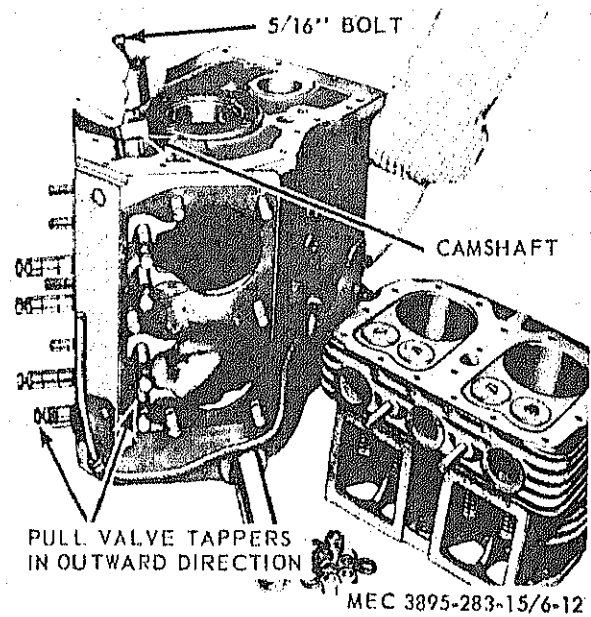

Figure 6-12. Camshaft Removal.
(1) The camshaft must be withdrawn from the flywheel end.
(2) Refer to figure 6-12 for the removal of the camshaft.